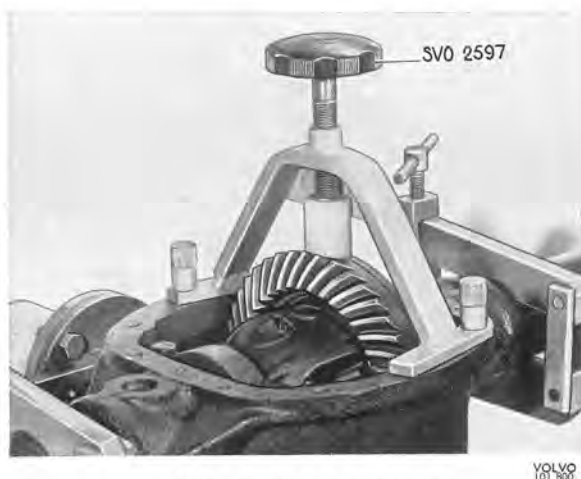
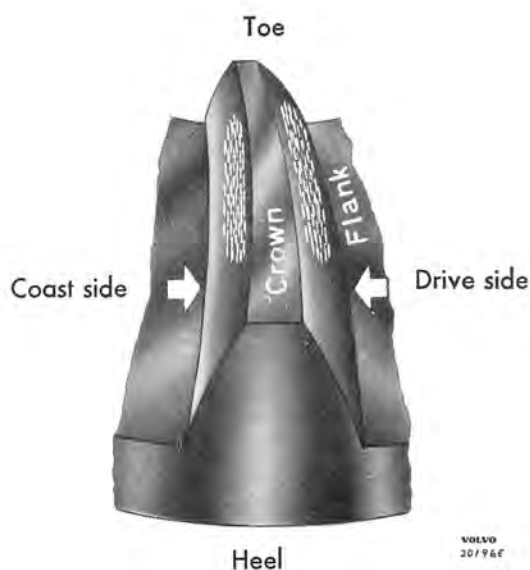

Fig. 4-165. Brake tool for differential
Fig. 4-166. Correct tooth contact
2. Fit on brake tool 2597 as shown in Fig. 4-165. Apply marking blue to several teeth at three points on the crown wheel. This can serve as a check on the crown wheel for possible warping. Rotate the pinion 10—12 turns in both directions and check the mesh marking pattern. With correct tooth mesh, the mesh marking pattern should be horizontal in the middle of the tooth but somewhat nearer to the toe than the heel. The patterns on the coast side and drive side should coincide with each other. See Fig. 4-166. If the patterns do not coincide, the pinion location must be adjusted